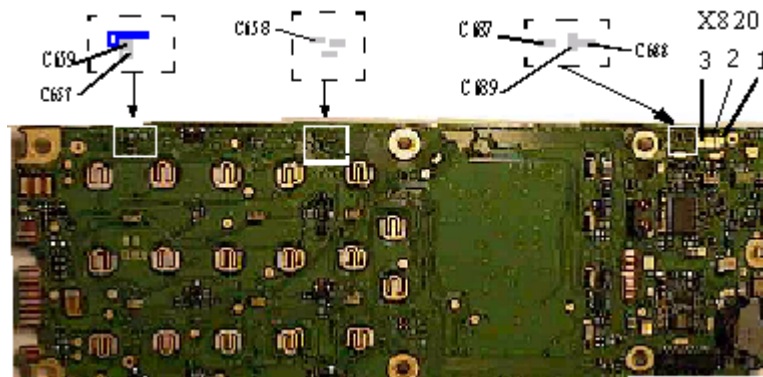
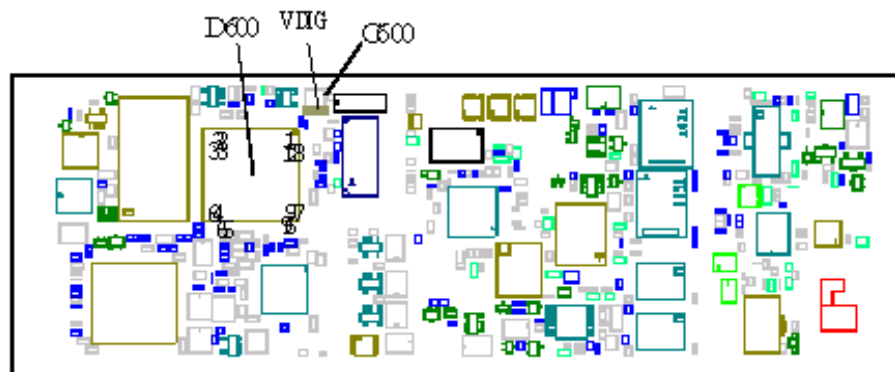

Fig. 8.1
Fig. 8.2
Open the phone and check for liquid damages, especially around X820 (fig. 8.1). Replace the flex film for the volume keys, assemble the phone and try again.
- 1 - replace C659 and C689 (class A, fig. 8.1).
- 2 - replace C658 and C688 (class A, fig. 8.1).
- 3 - replace C657 and C687 (class A, fig. 8.1).
If the fault remains, replace D600 (class B, fig. 8.2).
Check the solderings at D600 pins 122, 123 and 128. Measure the resistances from X820 (fig.8.1) pad 1 to D600 pin 122, from X820 pad 2 to D600 pin 128 and from X820 pad 3 to D600 pin 123 (all of them ~0 ohms). If any of the resistances are incorrect there's a foil damage and the phone is to be discarded. If they're all correct, replace D600 (class B, fig. 8.2).
Open the phone and check for liquid damages, especially around the keys that are non-functional. Clean the keypads thoroughly and mount the phone with a new keyboard. Check the keys as in 5.1. If that didn't help, open the phone and check the solderings at D600 (fig.8.2) pins 120-128 and 1. If they're correct, give the board power and start it up.
Measure VDIG (3.2V) at the marked side of C600 (fig. 8.2).
- If the voltage is missing there too, replace D600 (class B, fig.8.2).